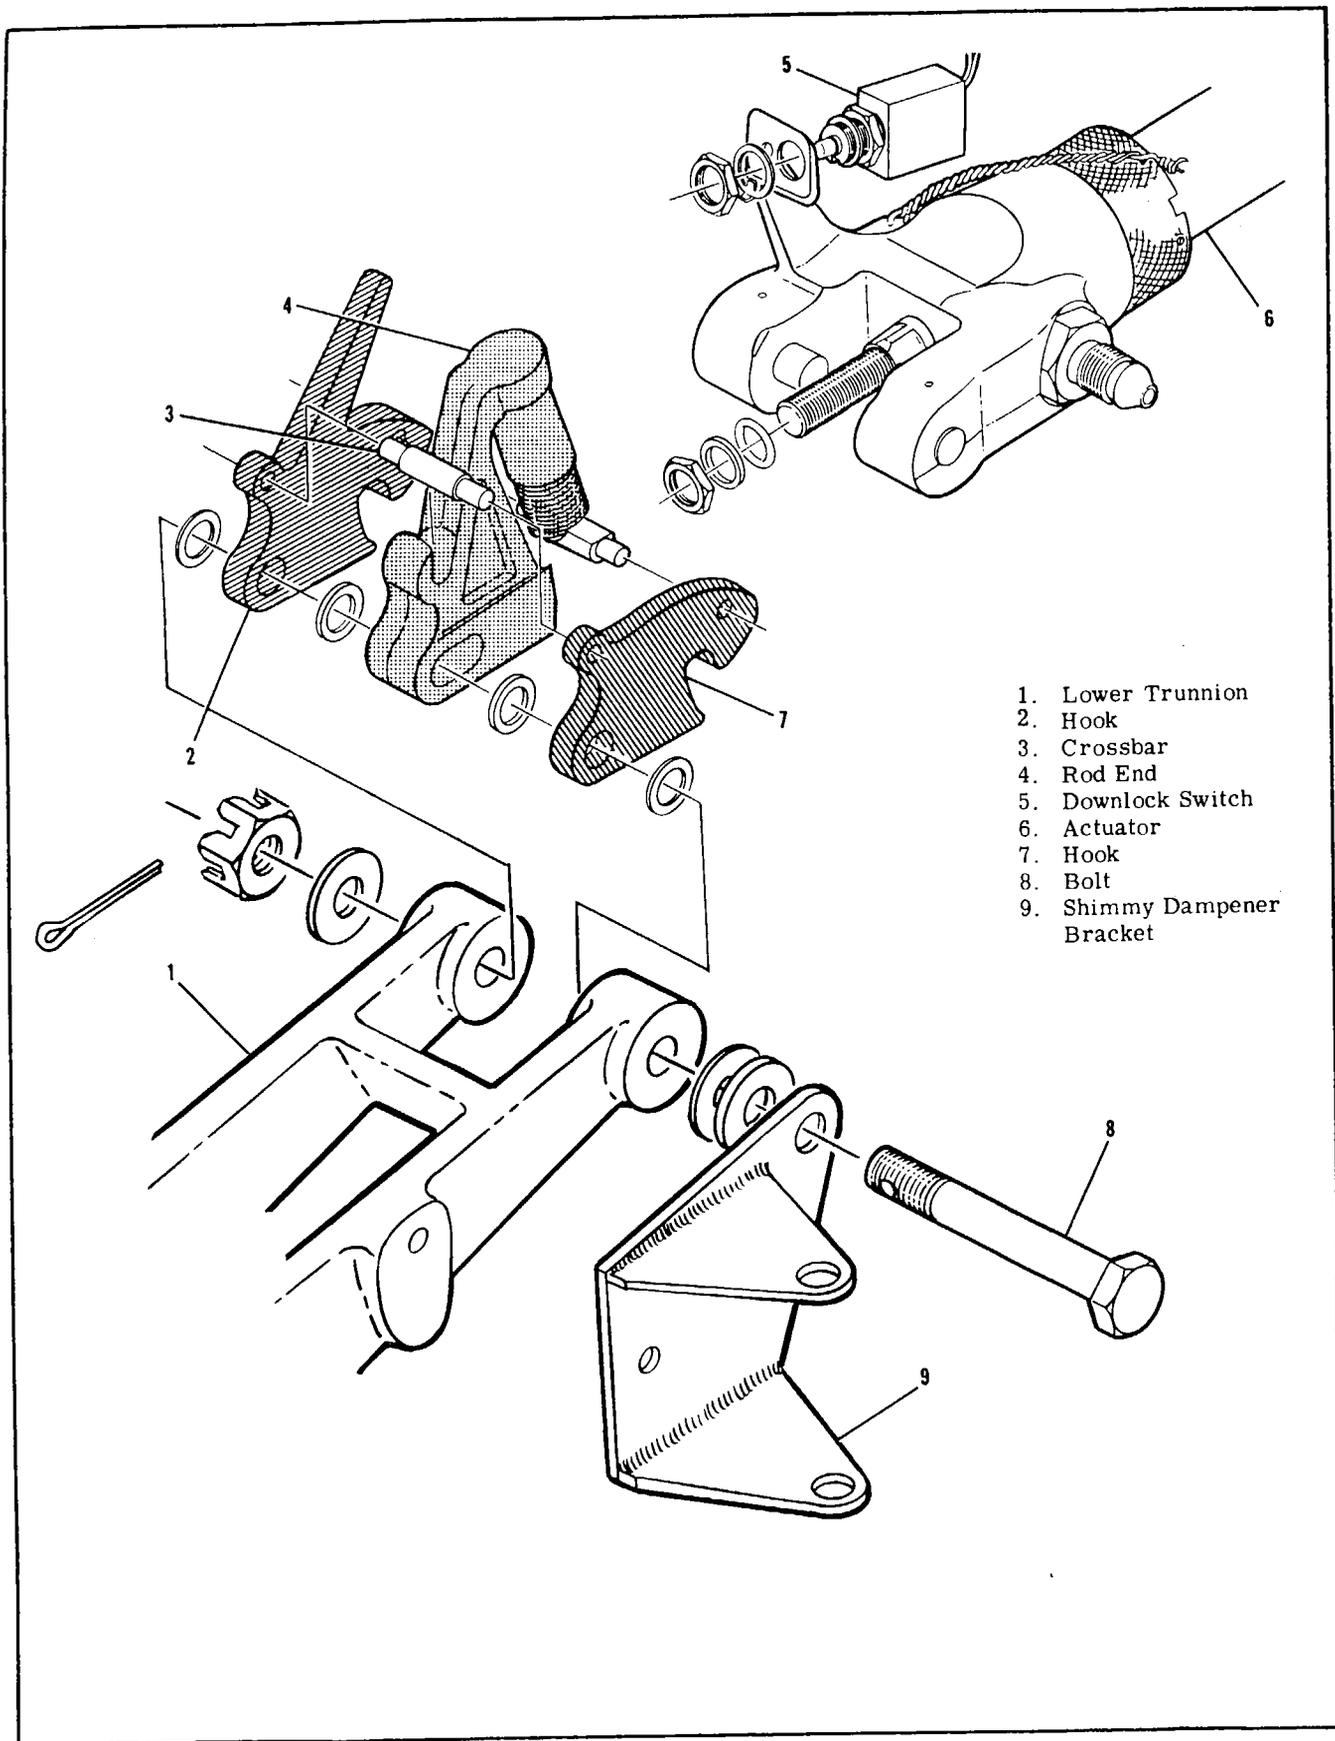

Figure 5-18. Nose Gear Downlock Installation
5-82. DOWNLOCK MECHANISM. (Refer to figure 5-18.)
5-84. REMOVAL AND INSTALLATION. Refer to figure 5-18 and paragraph 5-87, which describes procedures for removing the nose gear actuator. Components of the downlock mechanism will be freed as the actuator is removed.
- B. Assemble and attach nose gear downlock mechanism to lower trunnion as shown in Figure 5-18. On aircraft equipped with retractable step, be sure spring clip is installed in position shown on Sheet 3 of Figure 5-19. Torque nut to value stipulated in Figure 2-5.